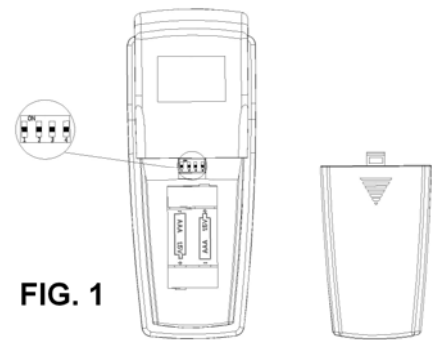

FIG. 1
**NOTE:** The Hand Held Remote Control System is equipped with a learning frequency function which has code combinations to prevent potential interference from other remote units. The frequency on your Receiver and Transmitter units have been preset at the factory. We recommend changing the frequency while installing your ceiling fan instead of using the initial frequency set by the factory (Fig. 1) Please use a small size tool to change the code switch setting.